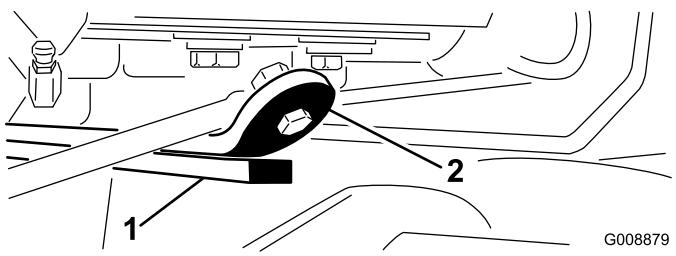

Figure 25
3. Start the engine, raise the lift arms, and check to ensure that the clearance between the wear strap on the top of the rear cutting unit wear bar and the bumper strap is 0.02 to 0.10 inches (0.51 to 2.54 mm) (Figure 25).